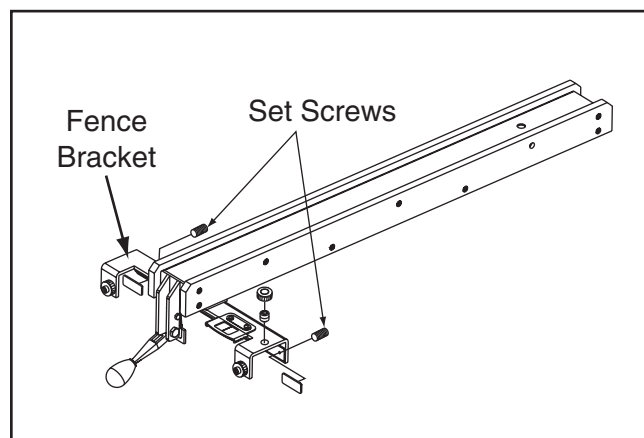

Figure 118. Location of set screws used to adjust fence parallelism and clamping pressure.
3. Equally adjust the set screws shown in **Figure 118** on the rear side of the front bracket as necessary until the clamping pressure is strong enough that the fence will not move as pressure is applied against it.